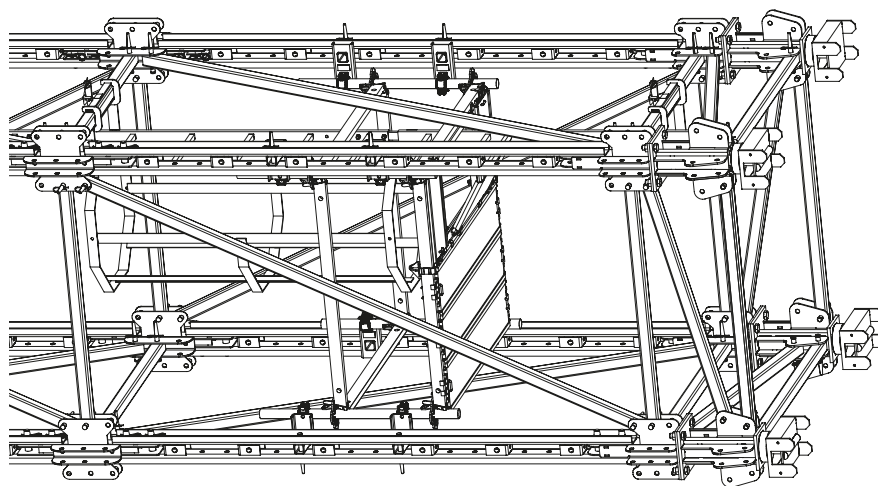

Fig. A1.49
2. Mount the scaffold in the middle according to the current version of the PERI UP Instructions for Assembly and Use. (Fig. A1.49)